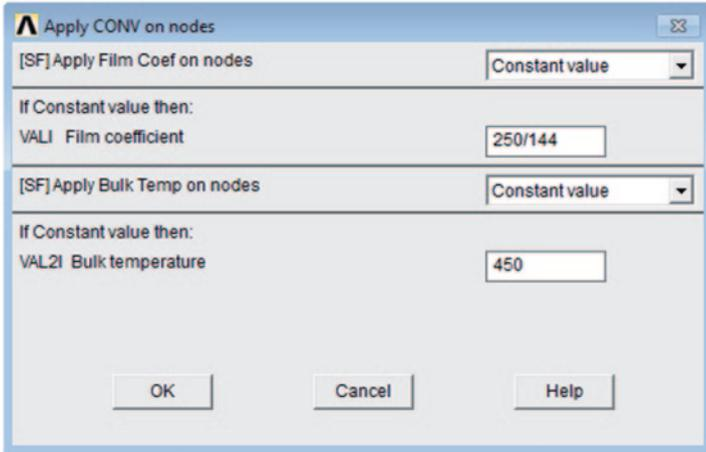

Fig. 9.24 Apply CONV on nodes dialog box
- In the dialog box, type **250/144** for film coefficient (first text field) and **450** for bulk temperature (second text field); click on **OK** (Fig. 9.24).